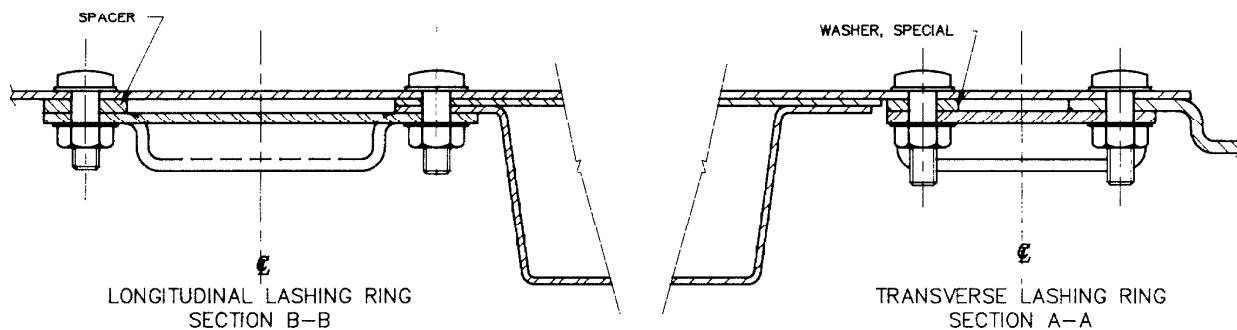

FIG 2
- c. Using this hole as a datum, locate lashing ring (Item 1 from Table 1) longitudinally to the underside of the floor ensuring that the lashing ring does not foul the radius of the crossmember. If it does, move the lashing ring forward approximately 6mm as shown in Fig 2.
- f. Position the lashing ring (Item 1 from Table 1) to the underside of floor and secure with items 2, 3, 4 and 6 as shown in Fig 2. Ensure the ring pivots upwards towards the front of vehicle.
- j. Move to the underside of the vehicle and using the hole as a datum locate the lashing ring running across the vehicle as shown in Fig 2. Ensure the lashing ring does not interfere with the radius of steel angle strap.
- m. Position the lashing ring (Item 1 from Table 1) to the underside of floor and secure with items 2, 3, 4 and 5. Ensure ring pivots to the outside of vehicle.